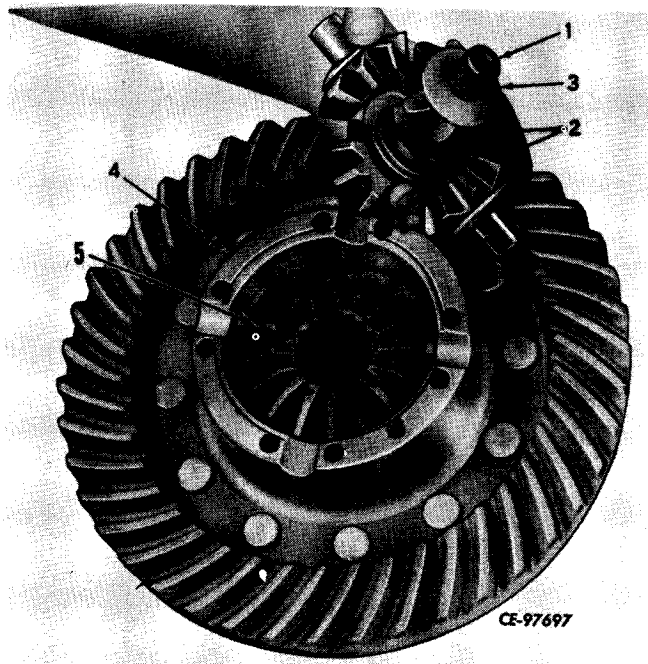

Figure 6-44
Position thrust washer and side gear (5, Fig. 6-44) in flanged case (4).